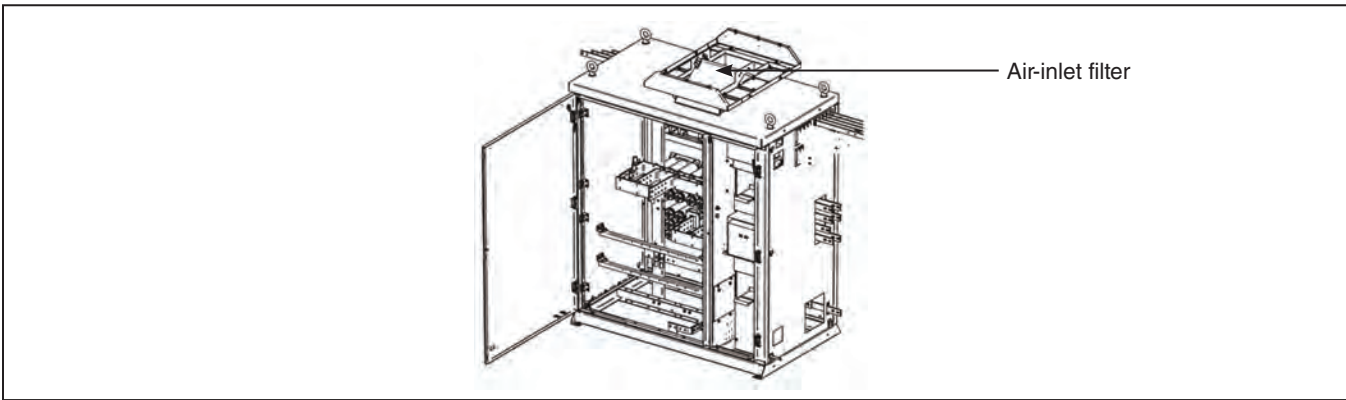

Figure 22. Location of the air-inlet filter.
- Inspect the air-inlet filter for debris and obstructions that can cause air flow restrictions. See Figure 22. The filter can be replaced by unbolting the top of the air-inlet vent hood with a wrench and screwdriver. When the hood is opened, the filter must be bent into place and secured by the clips provided. The white part of the filter should face up, and the pink part of the filter should face down into the switchgear bay.